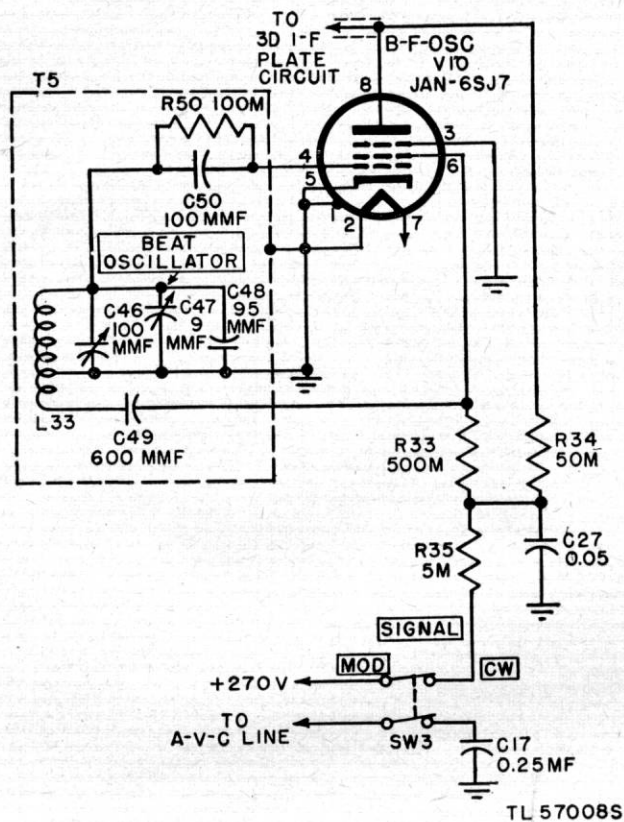

Figure 32. Radio Receiver BC-779-B, functional diagram of beat-frequency oscillator.
c. **S-METER.** When AVC-MANUAL switch SW4 is at AVC, the 0- to 200-microampere meter M1 is connected across the 1,000-ohm calibration resistor R41. The meter reading is a measure of the rectified current through the load. However, the meter is calibrated as a signal strength meter (S-meter). By adjusting R41 and S9 reading may be obtained on an input between approximately 10 and 10,000 microvolts. At the factory R41 is usually adjusted to produce a reading of S9 on a 50-microvolt signal at 3.5 mc. When so adjusted, a change of one S number on the meter indicates a change in signal strength of approximately two to one. The SENSITIVITY control R56 must be turned full on (10). When the S-meter is used for tuning, the BAND WIDTH control must be set at 3 for maximum accuracy. The S-meter is disconnected from the diode load circuit when the AVC-MANUAL switch is at MANUAL.
e. A-V-C OPERATION. With the AVC-MANUAL switch at AVC, the a-v-c control voltage is obtained from the junction of R52 and R19 and applied to the r-f stages and the first two i-f stages through the AVC-MANUAL switch and the i-f filter consisting of 1-meg resistor R52 and 0.05-mf paralleled capacitors C56 and C18B. This resistor-capacitor combination establishes the time constant of the a-v-c circuit. The grid resistors and capacitors in the controlled r-f and i-f stages also affect the time constant. The 2-meg resistor, R19, provides an interconnection between the avc and the fixed bias circuit. The SENSITIVITY control can therefore be used to adjust the gain of the receiver during a-v-c operation. This feature is very helpful in a noisy location. When avc is used for c-w code reception, a longer time constant is desirable and is secured by adding a 0.25-mf capacitor C17 in parallel with C56 and C18B. This additional capacitor is connected to one pole of the SIGNAL MOD-CW switch, SW3 (fig. 32), which controls the beat oscillator. Therefore, when the beat
66. Beat Frequency Oscillator (fig. 32)